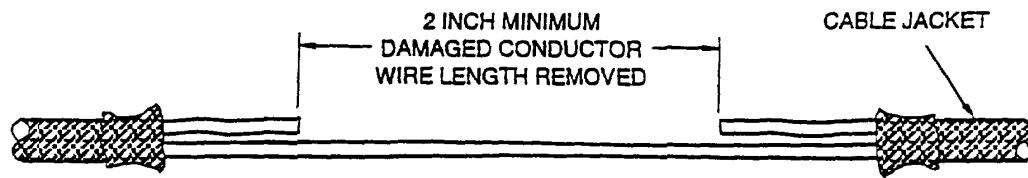
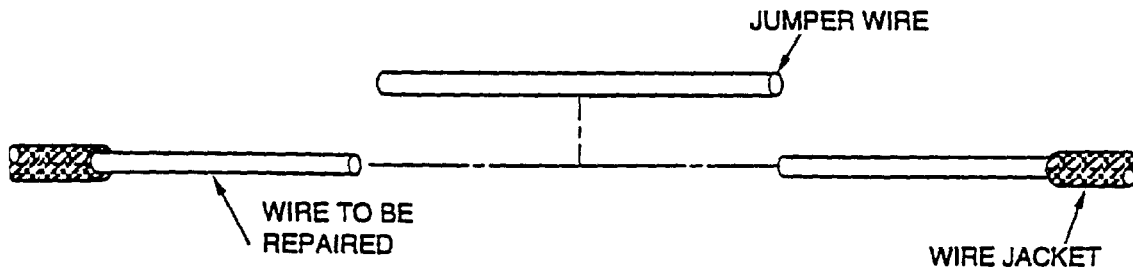

Figure 26. Single Wire Splice Repair
Figure 27. Jumper Wire Splice Repair
- g. Repair the damaged wire in accordance with WP 014 00 and paragraph 38 or 39. If wire is damaged at a single point, and there is some slack in the wire, the existing wire can usually be repaired with a sealed splice (Figure 26). If a wire has damage along its length, the damaged segment must be cut out and replaced by a jumper wire installed using two splices (Figure 27).